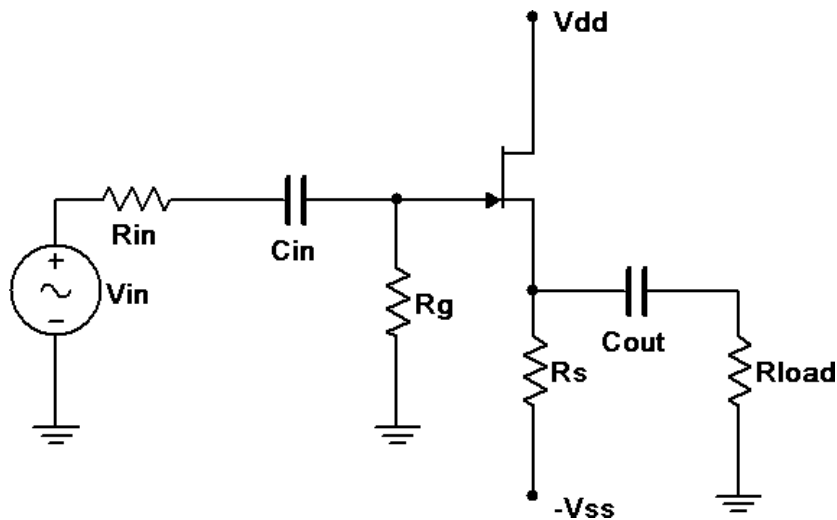

Figure 2
- Consider the circuit of Figure 2 using  $V_{dd} = 15$  volts,  $V_{ss} = -3$  volts,  $R_{in} = 33\text{ k}\Omega$ ,  $R_g = 330\text{ k}\Omega$ ,  $R_s = 4.7\text{ k}\Omega$ ,  $R_{load} = 22\text{ k}\Omega$ ,  $C_{in} = 10\text{ }\mu\text{F}$  and  $C_{out} = 470\text{ }\mu\text{F}$ . Assuming  $V_{GS} = -2$  volts and  $g_m = 2\text{ mS}$  (4 mS if using the J112), determine the theoretical gain and input impedance of the circuit and record in Table 2.
- Build the circuit of Figure 2 using  $V_{dd} = 15$  volts,  $V_{ss} = -3$  volts,  $R_{in} = 33\text{ k}\Omega$ ,  $R_g = 330\text{ k}\Omega$ ,  $R_s = 4.7\text{ k}\Omega$ ,  $R_{load} = 22\text{ k}\Omega$ ,  $C_{in} = 10\text{ }\mu\text{F}$  and  $C_{out} = 470\text{ }\mu\text{F}$ . Set  $V_{in}$  to a 100 mV peak sine at 1 kHz. Measure the voltages at the gate and load, and record these in Table 2. Capture images of the input and gate voltages, and the gate and load voltages. Note whether or not the load is inverted compared to the gate signal.